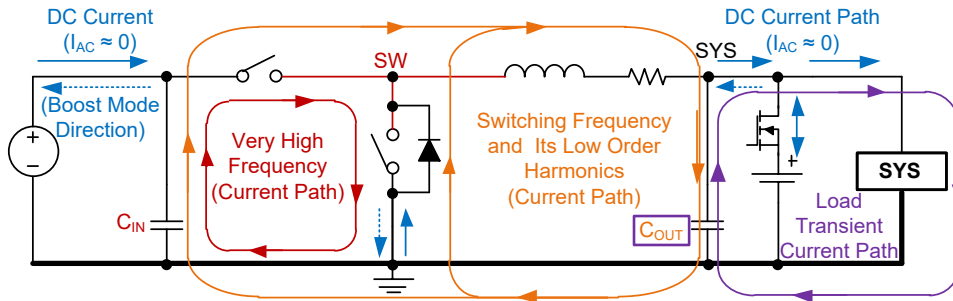

Figure 20. The Paths and Loops Carrying High Frequency, DC Currents and Very High Frequency (for Layout Design Consideration)
The switching node (SW) creates very high frequency noises several times higher than f_{sw} (1.5MHz) due to sharp rise and fall times of the voltage and current in the switches. To reduce the ringing issues and noise generation designing a proper layout is important to minimize the current path impedance and loop area. A graphical guideline for the current loops and their frequency content is provided in Figure 20. The following considerations can help making a better layout.